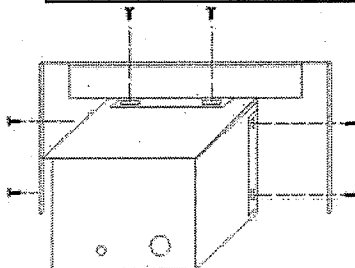

FIGURE 10: SHROUD INSTALLATION
- A. FIGURE 10 shows the final step in the insert installation which is to place the optional shroud and its insulation around the NPS-1000.